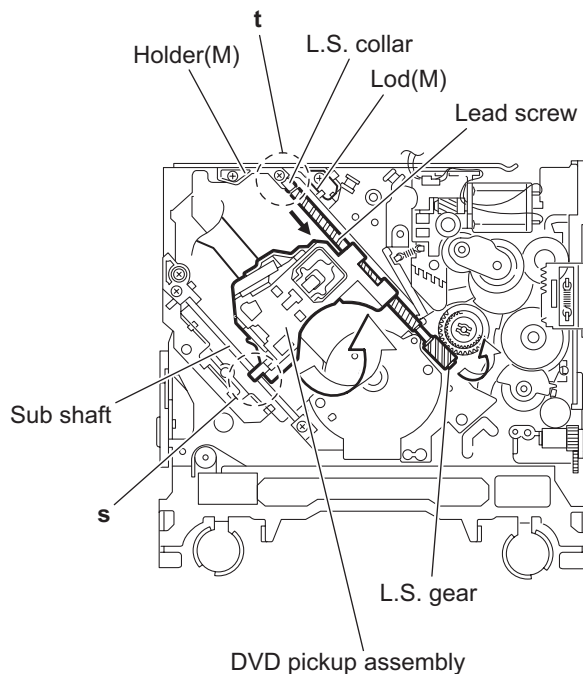

Fig.18
- (3) Remove the DVD pickup assembly upward on the L.S. gear side and release from sub shaft at joint **s**. Move the lead screw of the DVD pickup assembly in the direction of the arrow to release from joint **t**. (See Fig.18.)
- After reattaching the L.S. collar, reattach it to the point **t** of the lead screw, and to the holder (M). Make sure that the L.S. collar is set on the lod (M). (See Fig.18.)